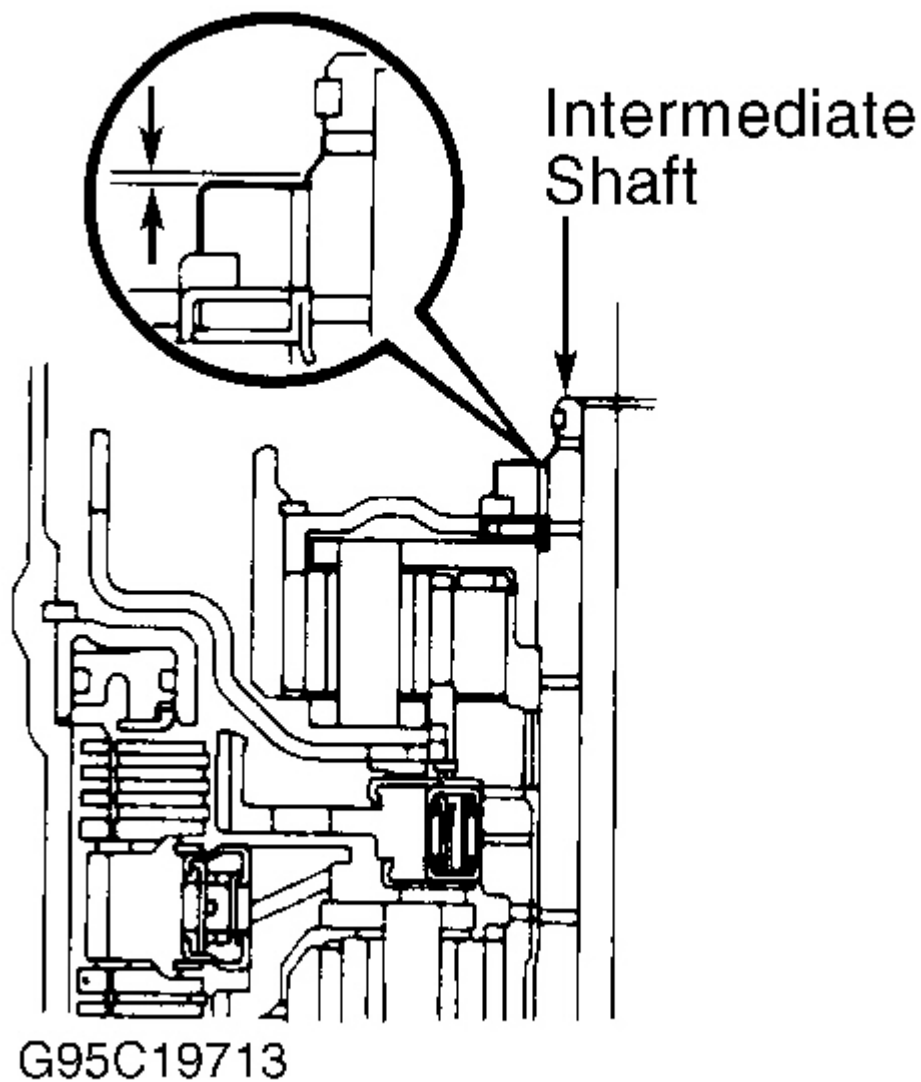

Fig. 83: Checking Front Planetary Ring Gear Installation
23. If components installed in transaxle case are correctly installed, end of ring gear flange bushing will be even or slightly lower than intermediate shaft shoulder. See **Fig. 83**. Install thrust bearing and races "D" on tip of ring gear flange. Install 2nd coast brake band into transaxle case. Install pin through oil pump mounting bolt hole.